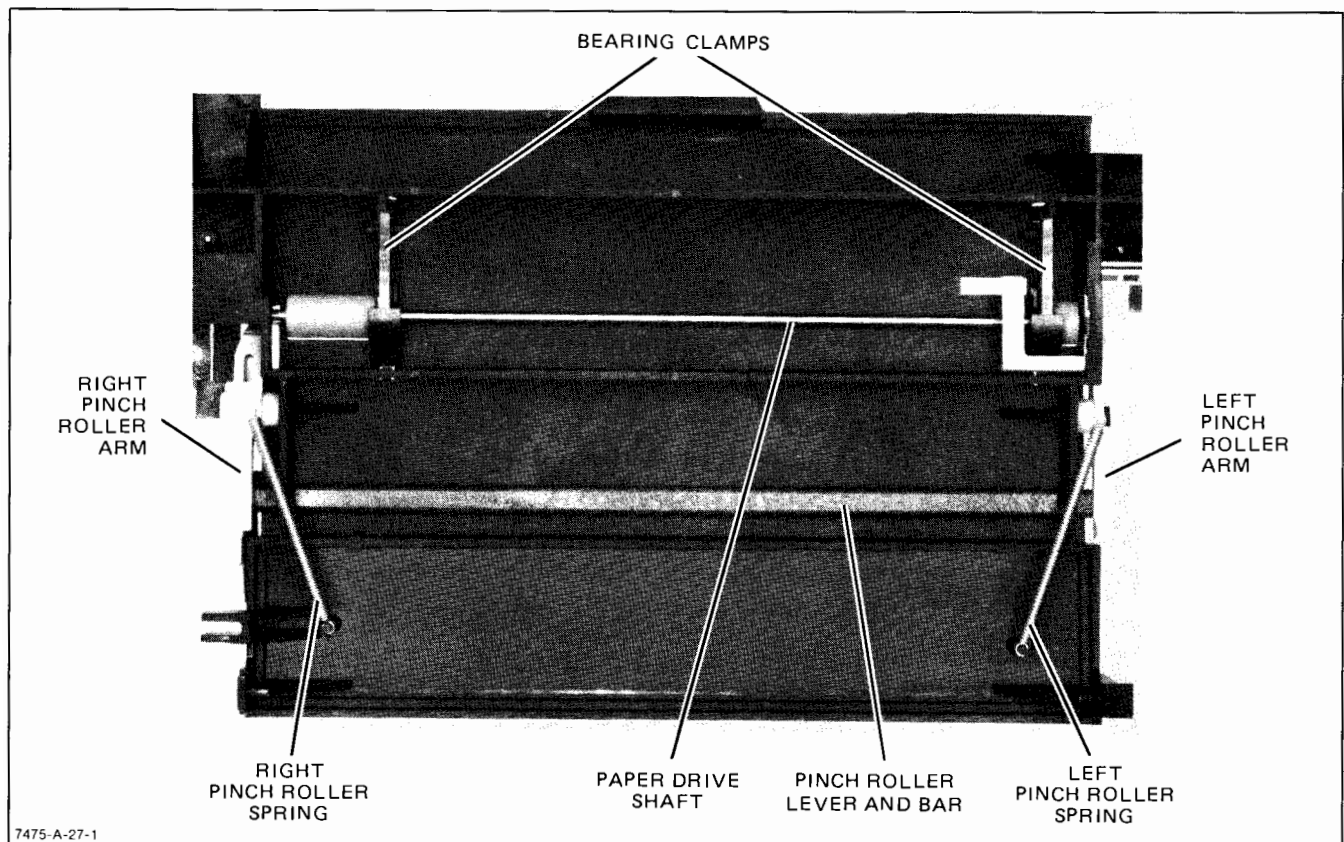

Figure 6-19. Underside of Chassis Assembly
- d. Place the chassis assembly upside down on the work surface. See Figure 6-19.
- c. Remove both bearing clamps by pressing down and inward on the clamps. See Figure 6-19.